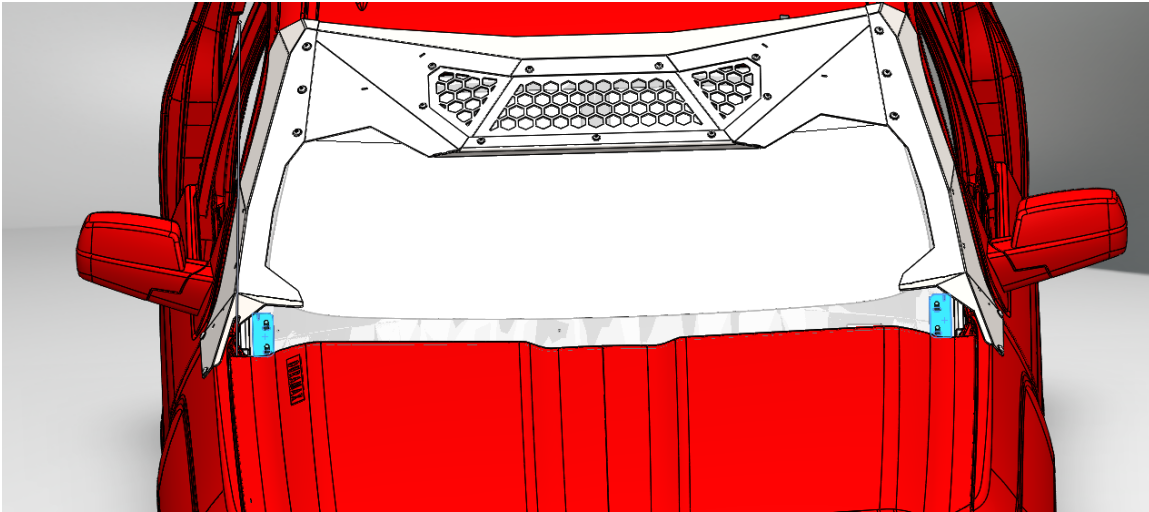

Fig 15
- p. With the help of a friend, lift the ViCowl cowl up over the hood and slowly lower it down on the mounting surface as shown in **Fig 15** highlighted in blue.